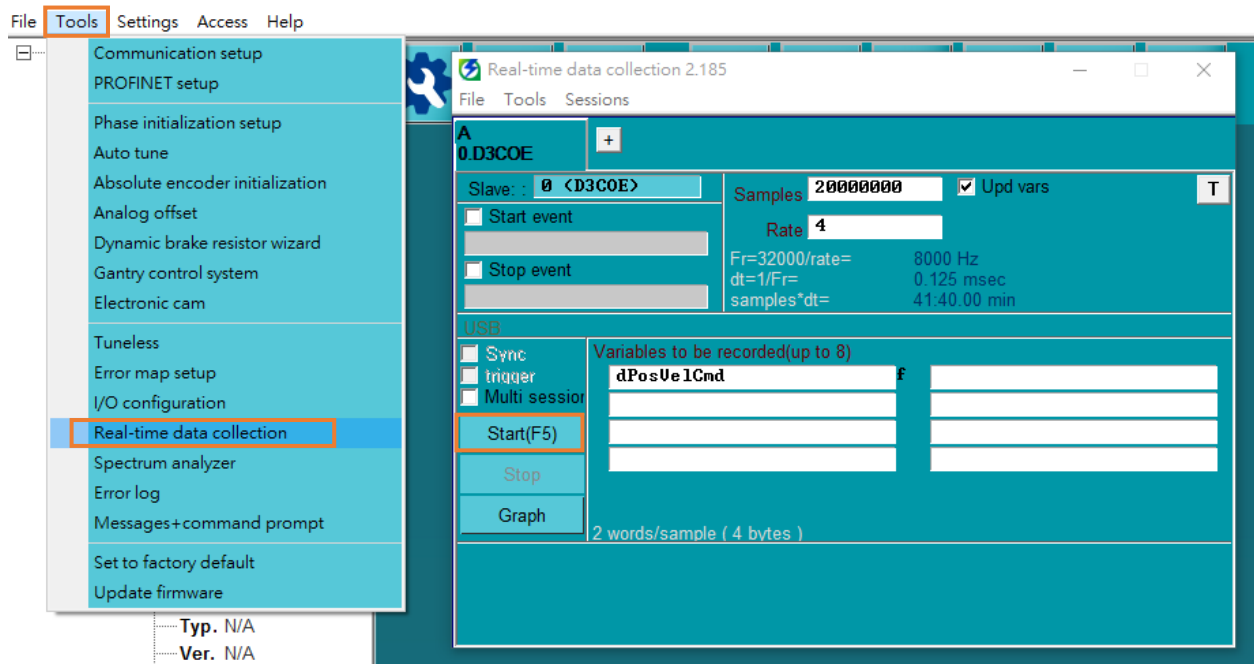
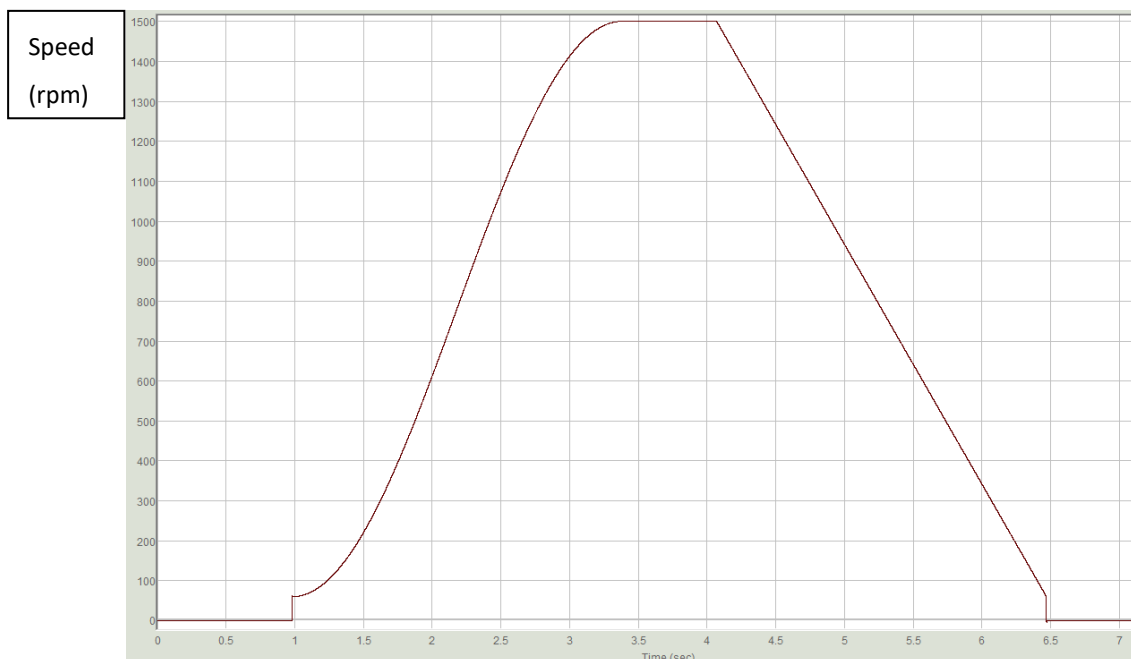

Figure 3.2.2
Figure 3.2.4
- Open **Thunder > Tools > Real-time data collection**, click **Stop** and then press **Graph** (refer to Figure 3.2.2) to generate Figure 3.2.4.